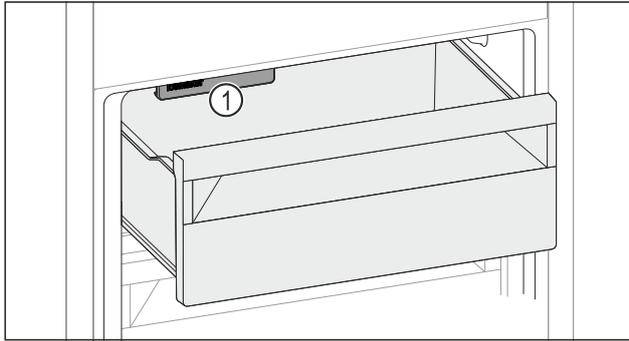

Fig. 131
- ▶ Pay attention to the IceMaker Fig. 131 (1).